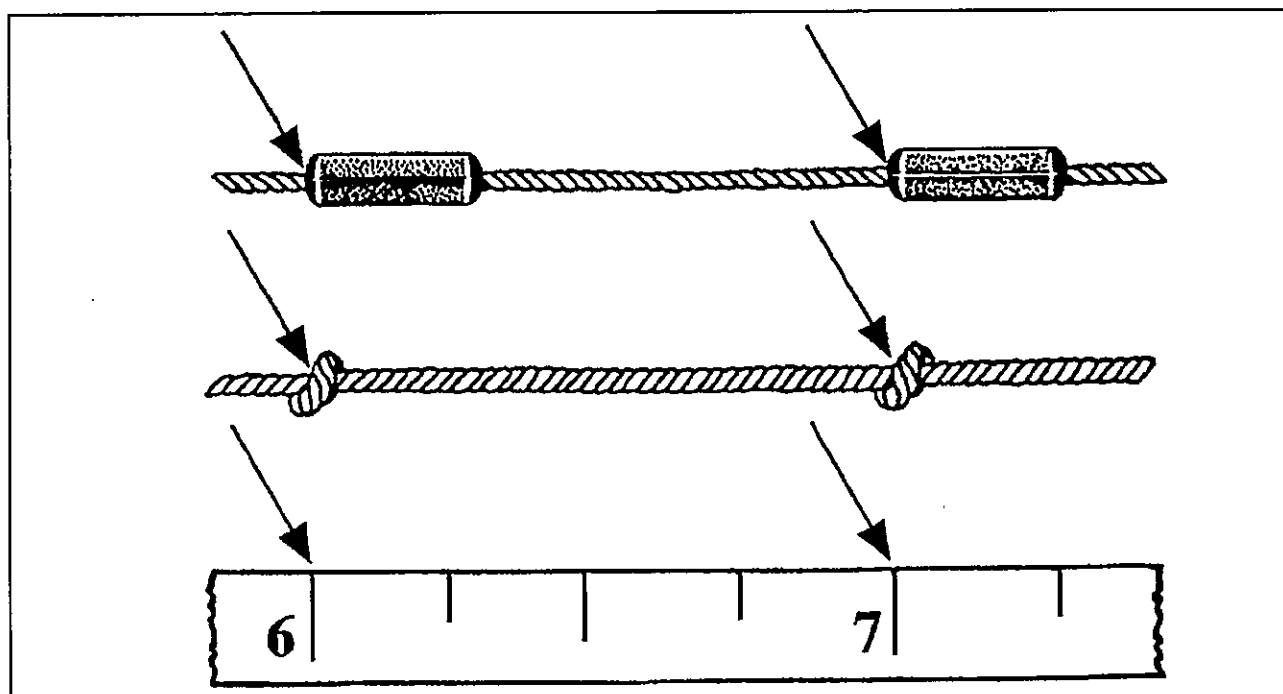

Figure 3. At each mark, consistently focus on a single point on the same side of the measuring device, rather than on the entire mark.
- This is especially important when using a knotted rope or cord with attached beads. The knot or bead covers a relatively large area, and if residue at any location under the mark is counted, overestimation will result. Instead, always focus on a small, single point such as where the bead meets the cord (Figure 3).